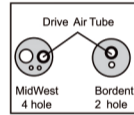

Fig. 18
- 4) Insert the Tip Nozzle into the Drive Air Prot of the handpiece. Hold the handpiece and spray for approximately 2-3 seconds. Apply lubricant until it expels from the handpiece head for at least 2 seconds (Fig. 18, 19).